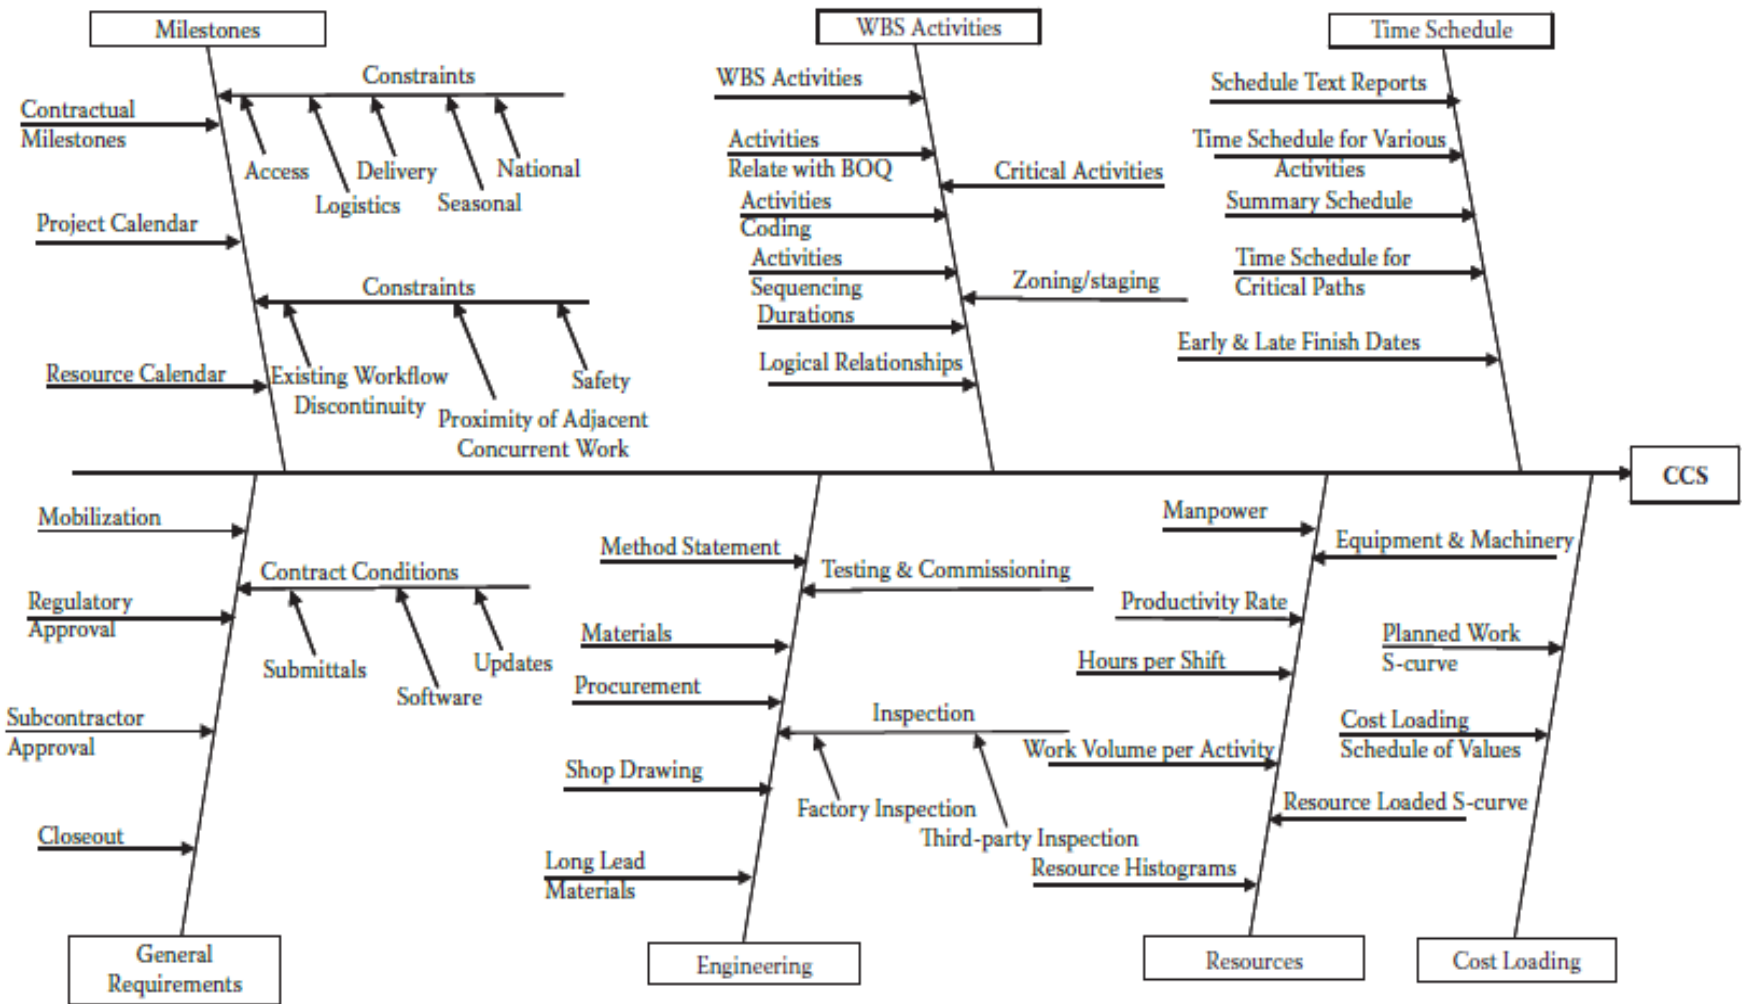

FIGURE 1.31
- *Figure 1.31 illustrates these variables along with related sub variables arranged in the form of the Ishikawa diagram.*